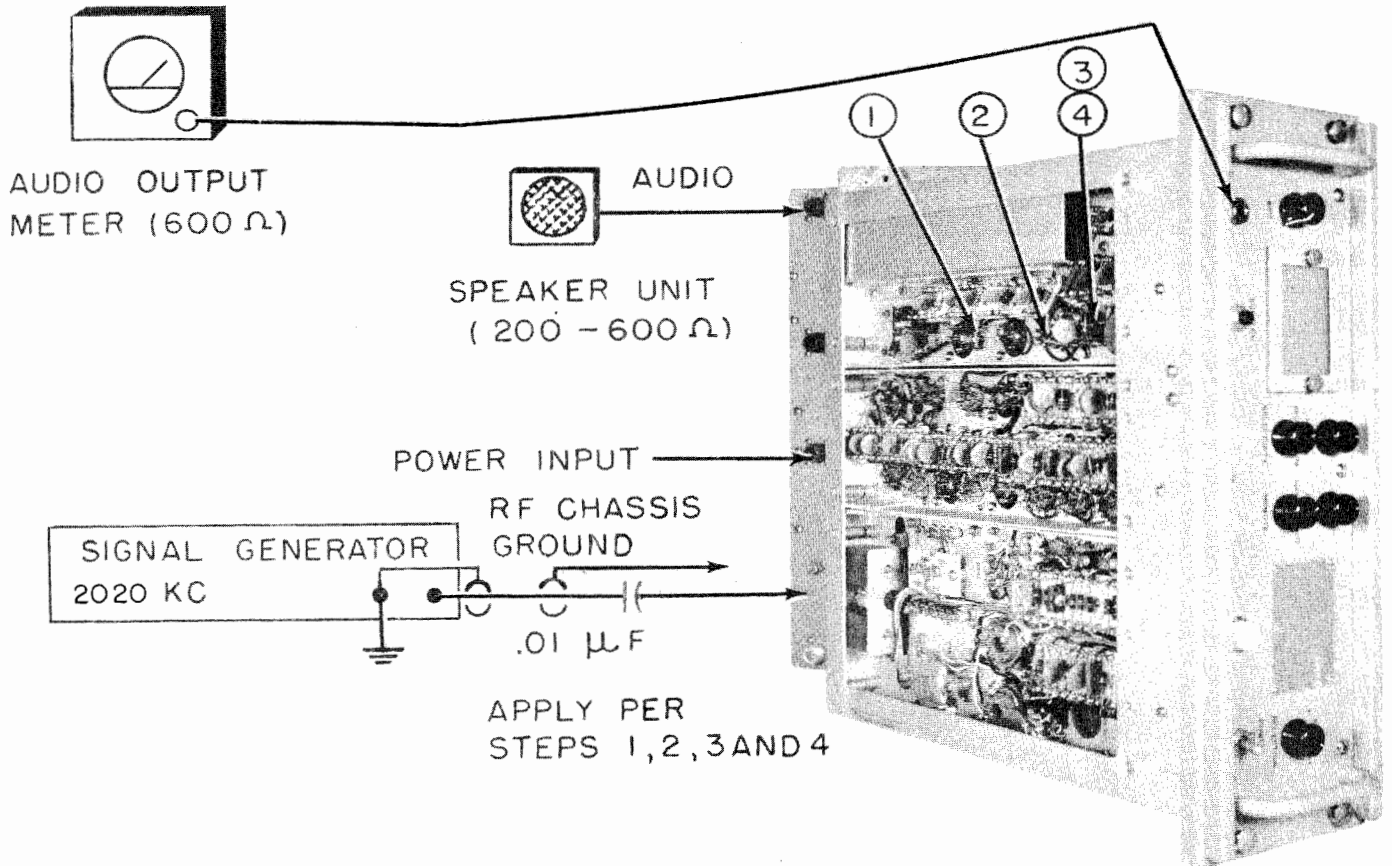
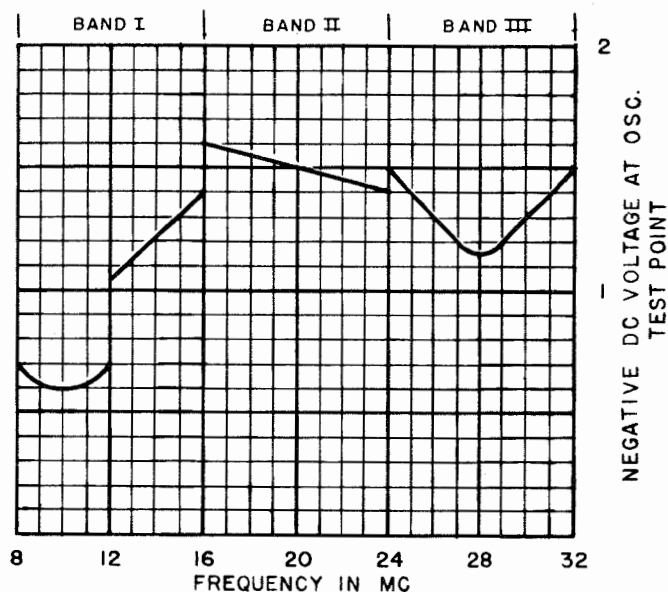

Figure 7-3. 455 Kc IF Amplifier Alignment Set-up
Figure 7-5. Channel Determining Oscillator, Frequency vs Voltage
(12) Adjust the BFO control (R406), located at the left hand side of the front panel, to 50% rotation. (See Fig. 7-3.)
(3) Align 2020 Kc IF transformer. (See Fig. 7-3, Table 7-4.)
f. 1900 KC OSCILLATOR.—This oscillator has no means of adjustment, and should function normally by inserting the 1900 Kc crystal (Y102). (See Fig. 7-5.). When the crystal is inserted, the DC grid voltage as measured on pin #1 of XV104 should be checked. It should be approximately 6.3 volts DC. No further checks are necessary unless the circuit is not functioning properly.
(1) Turn the RECEPTION switch (S301) located on the front panel to A2-A3 reception.
(2) Turn the AF LEVEL control (R301) located on the Audio/Power Supply chassis to 70% rotation.
(3) See that the 1900 Kc crystal (Y102) is inserted in its socket and is oscillating properly. This can be checked by measuring the DC voltage present from Pin #1 to ground, across R212 of V104 (1900 Kc oscillator). For proper oscillation this voltage should be approximately 6.3 volts DC.
(4) Make certain that the SELECTIVITY switch is in the SHARP position.
(5) Refer to Figure 7-3 for proper signal generator, and audio output meter connection.
(6) Tune 2020 Kc IF transformers accordingly to table 7-4.
(1) Insert channel determining crystal Y101 in socket XY101.
(2) Correct the receiver and vacuum tube voltmeter as indicated in figure 7-3 and proceed with the adjustment as indicated in figure 7-5.
(3) OSCILLATOR ACTIVITY control (R114) is capable of varying the crystal activity over a range varying from approximately —0.4 volts to approximately —2 volts. In order to compensate for the variation in crystal activity between various crystals, this control is adjusted for the desired amount of crystal activity as measured at the OSCILLATOR TEST point C114. Below, listed in figure 7-5, are the approximate oscillator
(4) The OSCILLATOR ACTIVITY control (R114) should be adjusted for approximately 50% rotation until after the RF stages have been properly aligned.
(5) After the RF stages have been properly aligned, as indicated in table 7-5, the OSCILLATOR ACTIVITY control (R114) may be adjusted for the proper amount of crystal activity by setting the control in accordance with figure 7-5. Some variation of these values may be expected due to receiver component tolerances. This should be done when the RECEPTION switch has been set for A2-A3 operation in the absence of an incoming signal.
(8) Before the completion of the alignment, the OSCILLATOR SELECTIVITY control (R114) must be adjusted for the proper amount of crystal activity by setting the control in accordance with figure 7-5. Some variation of these values may be expected due to receiver component tolerances. Voltages are measured at the OSCILLATOR TEST point (C114), with a vacuum tube voltmeter having an input impedance of at least 11 megohms. With the SELECTIVITY switch in the BROAD position, the AGC threshold of operation will be between signal input of 5-8 microvolts, if the proper amount of crystal activity is obtained. Under these circumstances the A2-A3 sensitivity for a signal-to-noise ratio of 10 db will be approximately 4 to 5 microvolts. The A1 RECEPTION switch position will afford an A1 sensitivity of less than 5 microvolts when the SELECTIVITY switch (S201) is in the SHARP position.